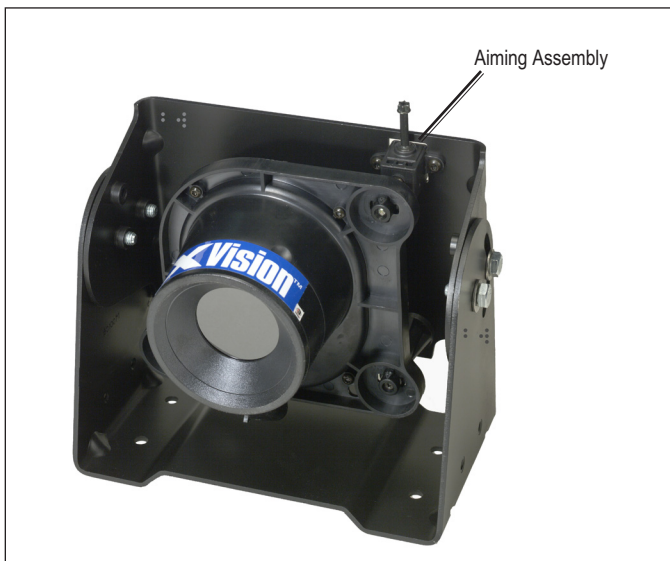

FIGURE 22 - FULLY ASSEMBLED IR CAMERA
13. Position the IR camera onto the factory-installed aiming assemblies. Refer to Figure 22.